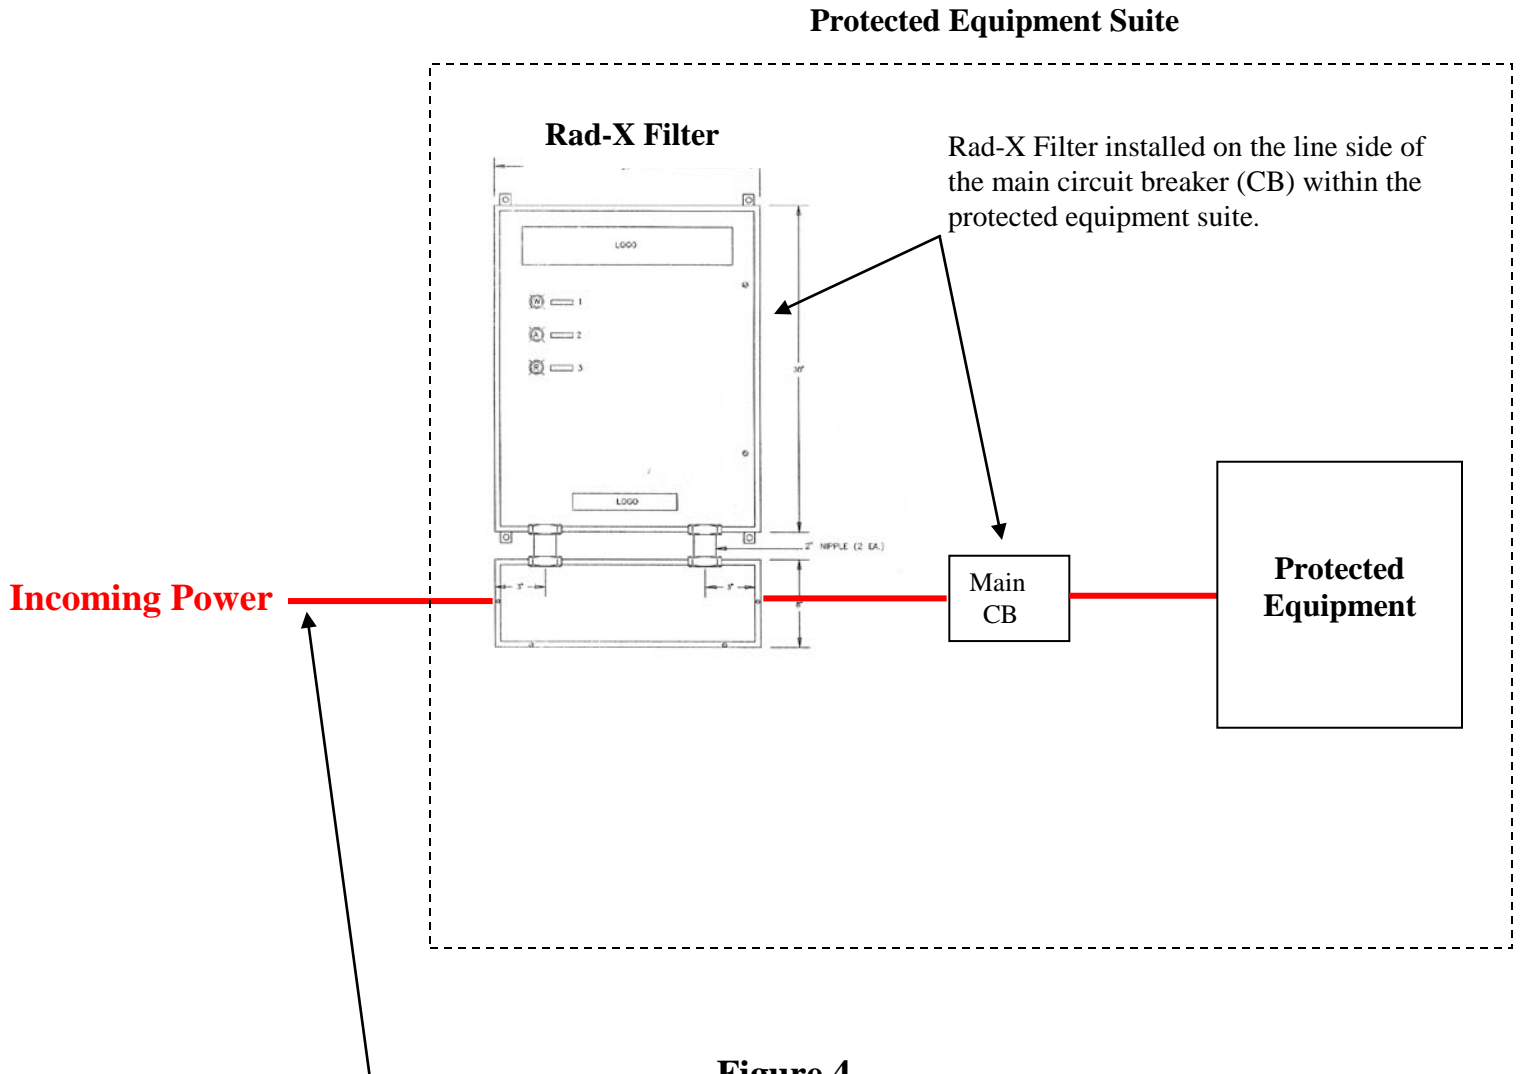

Figure 4
The Rad-X Filter is electrically installed in series with the feeder conductors that supply the protected equipment. Whenever possible, it is preferable to install the Rad-X Filter on **the line side of the main circuit breaker (CB)** that is typically located within the protected equipment suite (**Figure 4**).
2. Determine if the main circuit breaker (CB) controlling power to the protected equipment is electrically installed before or after the Rad-X Filter (**Figure 4**).
2. If the main CB is before the Rad-X Filter, turn off the main CB. If the main CB is after the Rad-X filter, shut the CB that controls power to the protected equipment (**Figure 4**).